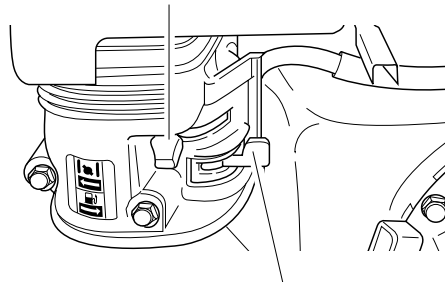
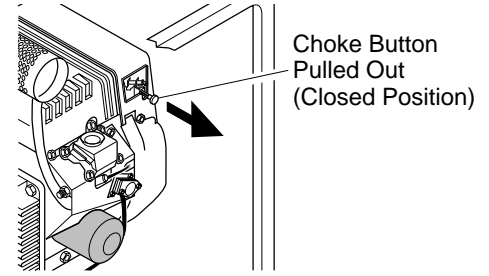

Figure 17 - Fuel Valve Lever On, Choke Lever Closed (Model MGH4000C Shown)
Figure 18 - Choke Button Closed (Model MGH10000 Only)
2. Move fuel valve lever to the ON position (see Figure 17).
3. Move choke lever fully to the left (see Figure 17) or pull choke button out (Model MGH10000 only, see Figure 18). This closes the choke.